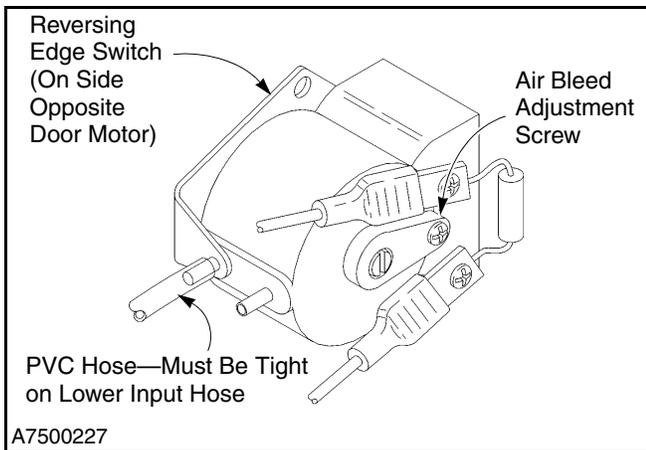

Figure 31
2. Make sure the clear PVC hose is in tight contact with the air input post so that air leakage cannot occur and that vibration will not cause the hose to fall off. Also make sure the hose is not kinked. (See Figure 31.)